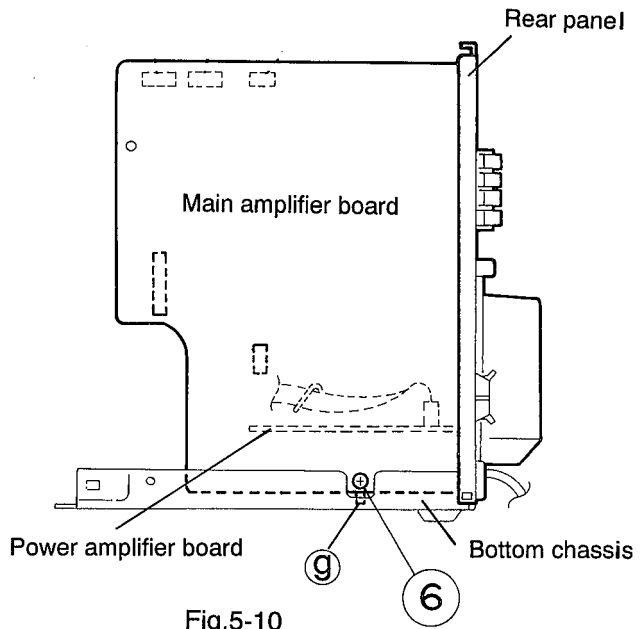

Fig.5-10
(See Fig. 5-10)
8. Remove the rear panel assembly from the bottom chassis by disengaging the protrusion ⑨ of the main amplifier board from the cutout in the bottom chassis. (See Fig. 5-10)